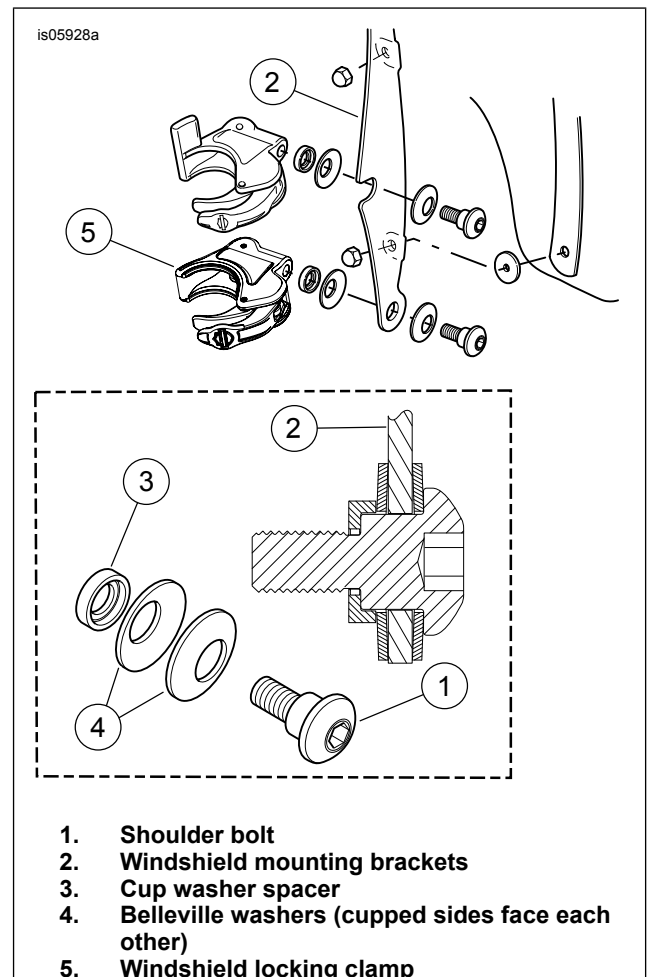

Figure 1. Windshield Mounting Clamp
3. See Figure 1. Assemble the clamp assemblies and hardware stacks.